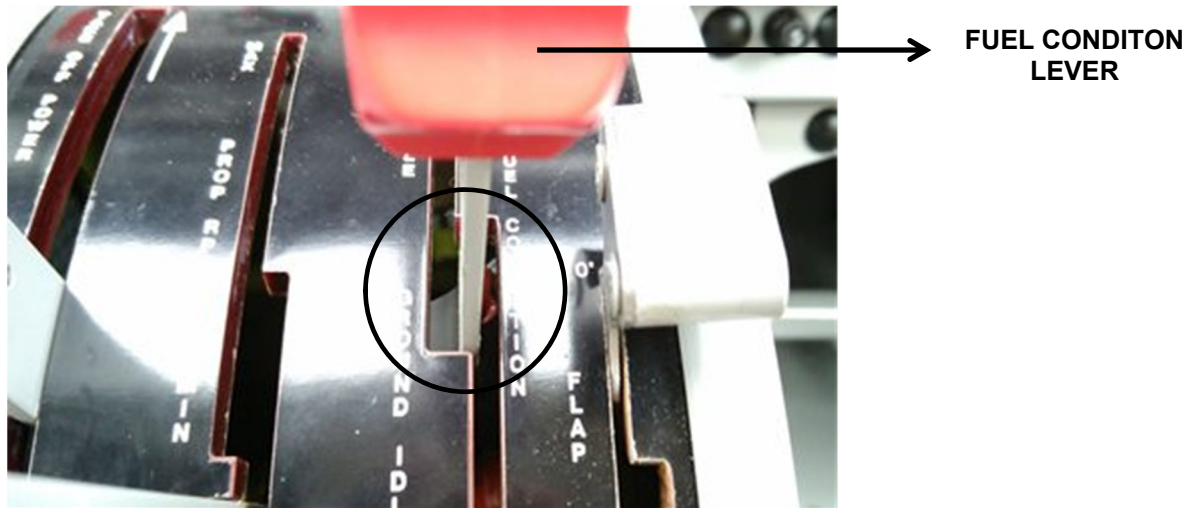
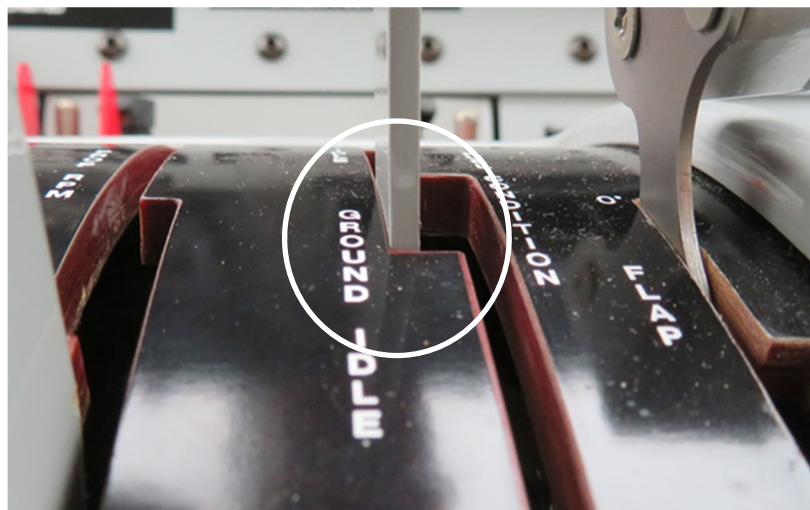

Figure 1 Possible Existing Position
Figure 2 Preferred Position
| C. | DESCRIPTION | This Service Bulletin provides procedures to check, and if necessary, adjust the position of the Fuel Condition Lever to ensure it rests against the left hand side of the Control Guide slot when Ground Idle is selected (refer to Figure 2). | |
- 1) Check the position of the Fuel Condition Lever at the Ground Idle position (refer to Figure 1 for "Possible Existing Position" and refer to Figure 2 for "Preferred Position").
- 2) If the Fuel Condition Lever is positioned as shown in Figure 2 and the lever is positioned to rest against the left of the Control Guide slot in the ground idle position, no further action is required. Proceed to **Section 3 - Certification**.
- 3) If the Fuel Condition Lever is not positioned against the left of the Control Guide slot in the ground idle position (as shown in Figure 2), proceed as follows:
- g) To determine if the Fuel Condition Lever is in the correct position temporarily place the control guide back into position and check to see if the fuel condition lever is resting against the left edge of the control guide in the ground idle position (refer to Figure 2).